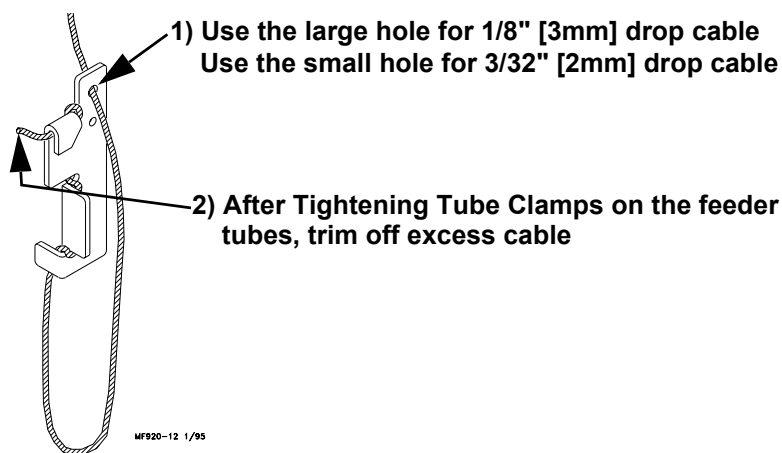

Figure 37. Cable Lock Threading
6. Install Adjustment Leveler within 6" (152 mm) of feeder line. **Figure 37** shows the proper cable routing around the Adjustment Leveler.